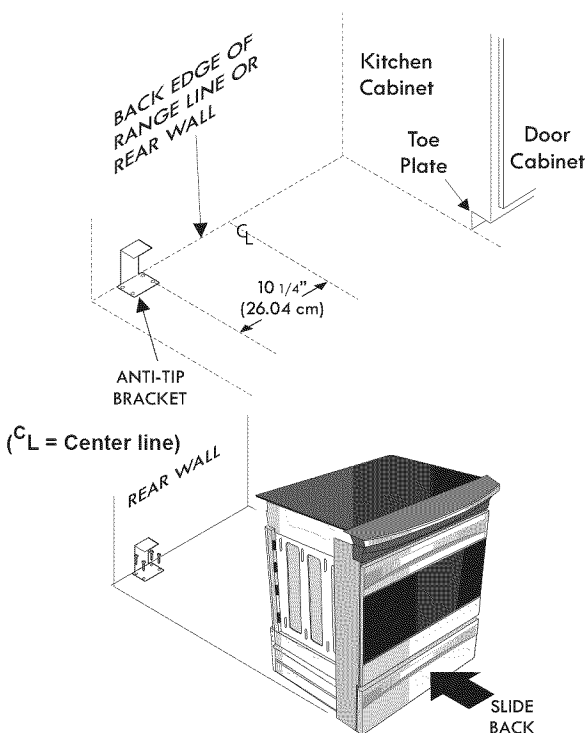

Figure 8
1. Draw a center line (CL) on the floor where the range should be installed. Also draw a line on the floor at the range back position if there is no wall.
2. Unfold paper template and place it flat on the floor with the right rear corner positioned exactly on the intersection of the center and back lines you just drew before (Use the diagram below to locate brackets if template is not available (Figure 8)).